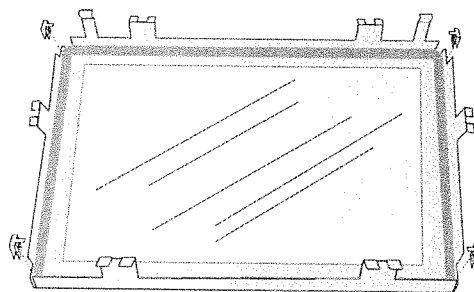

Figure 71.
6. Lay the glass panel within the glass frame and press the tabs back down or press the clips in place as shown in fig. 71.